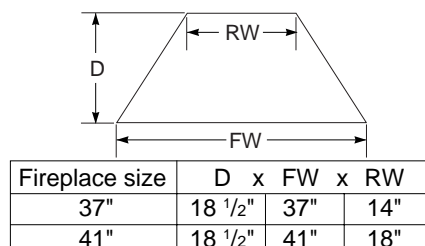

Figure 4 - Fireplace Bottom Dimensions
4. If your fireplace is to be installed directly on carpeting, vinyl tile, or any combustible material other than wood, it must be installed on a metal or wood panel extending the full width and depth of the fireplace. See Figure 4.